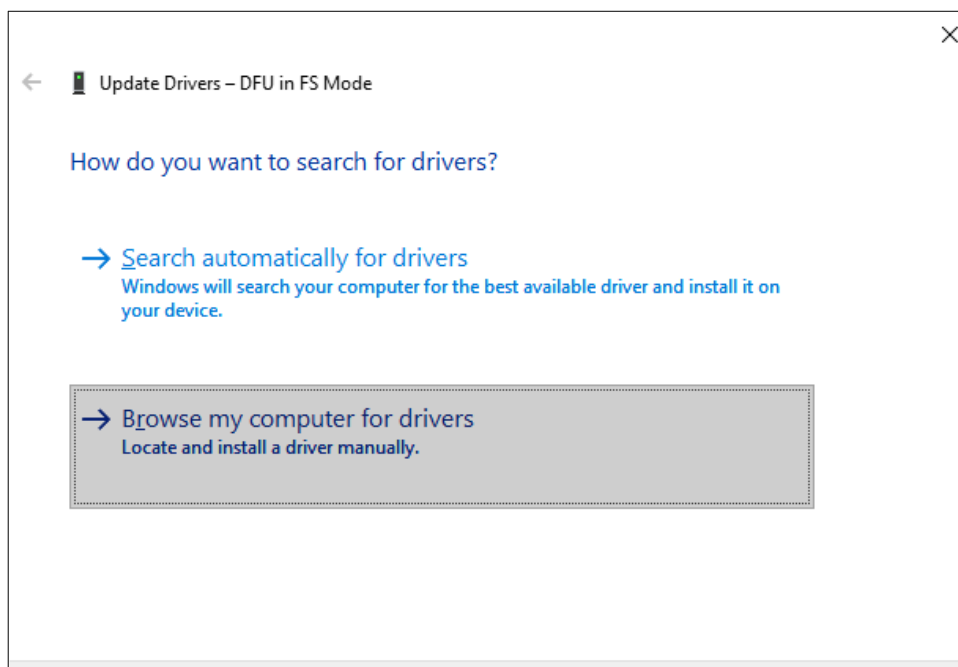

Figure 22: Use the option “Browse my computer for drivers” to pick the driver manually.
- 3 Use the option *Browse my computer for drivers* to pick the driver manually (see Fig. 22).